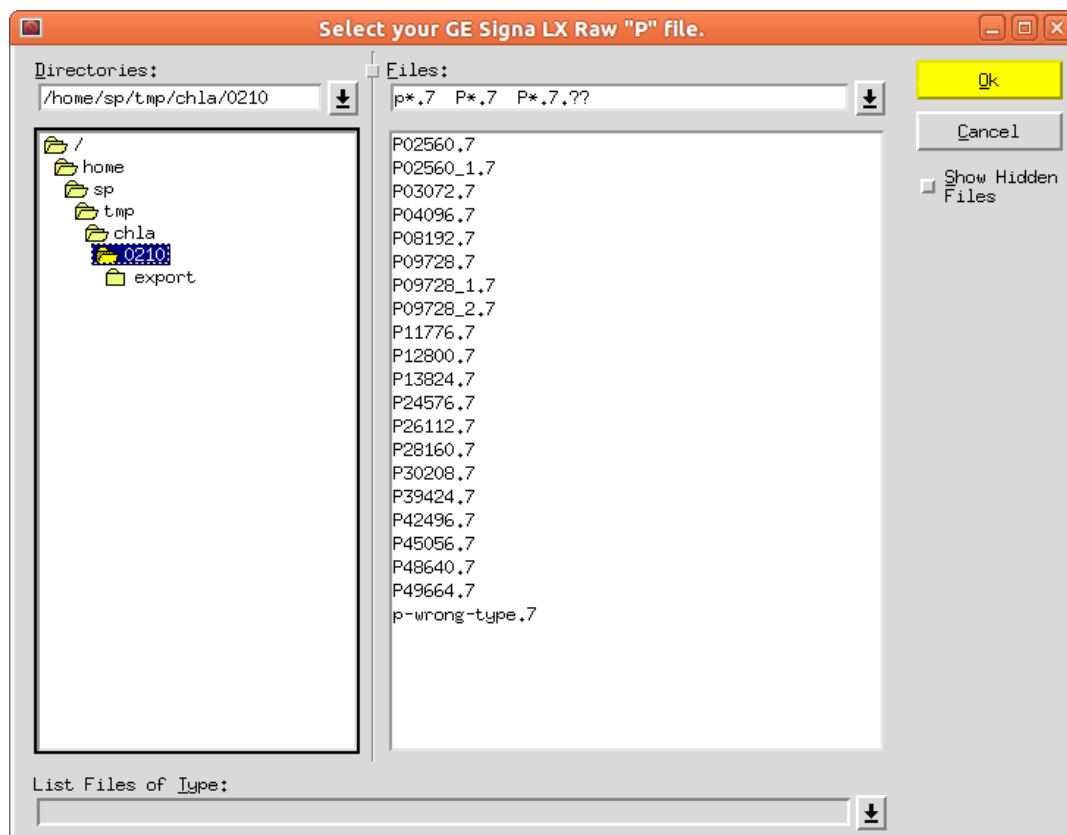
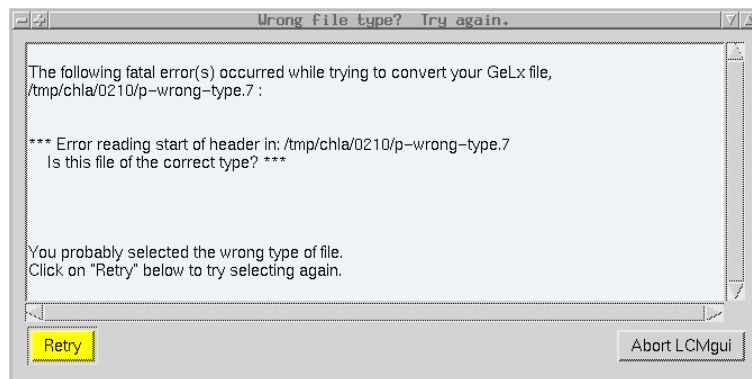
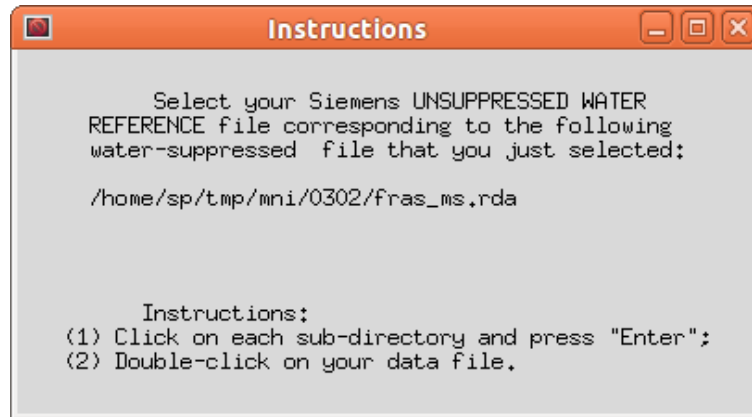

Figure 6.1: The File Selector, shown here for GE LX files
Figure 6.2: You selected a file of the wrong type in the File Selector
Figure 6.5: The instructions-part of the File Selector for the unsuppressed water reference.
- Select the file containing the data to be analyzed (Fig 6.1 in Sec 6.2.1).
When LCMgui is started, the first window that appears is usually the *File Selector*. An example with GE Signa LX data is shown in Fig 6.1. With data from other manufacturers, the title, “Select your GE Signa LX ...” will be different. LCMgui remembers the directory where the data file was in the last run, and the File Selector starts there.
You first navigate through the directory tree. When you click on a directory, its files are listed in the right pane (the stage shown in Fig 6.1). You then click on the filename that you want to use and click the yellow “OK” button at the right (or simply double-click on the filename).
Only filenames that match the filter shown at the top of the pane of filenames (p*.7, P*.7 or P*.7.??) in Fig 6.1) are displayed. If your filename differs from this standard (e.g., if you analyzed GE Signa 5.x data last time and LX data this time), then it will not be listed. You can change
If the filenames or directories in Fig 6.1 are so long that they are cut off, then the width of the panes can be adjusted by holding the left mouse button down on the small square at the top on the pane boundary (between “**Directories:**” and “**Files:**”) and dragging the pane boundary. (You can also simply use the scroll bar that appears at the bottom of the pane when names are too long.)
LCMgui remembers what type of data was analyzed from this account and User Profile the last time, and it expects the same type this time. You therefore get a window like Fig 6.2 if in the File Selector you:
- Select a completely irrelevant file (e.g., `p-wrong-type.7` in Fig 6.1 to produce Fig 6.2).
Otherwise, click the yellow “Retry” button in Fig 6.2. A window like Fig 6.3 appears. Here you click on the appropriate type of data. The File Selector then returns, giving you another chance to select your data file.
Select unsuppressed water reference file If the “Do eddy-current correction” button is active (blue), the File Selector window appears (unless you have Marconi/Picker files or GE Probe P-files, which already contain the water reference). It is exactly as in Fig 6.1, except for the window of instructions at the upper left (Fig 6.5). As you can see from Fig 6.5, the filename of your currently selected water-suppressed data is shown, and you must select the corresponding unsuppressed data file.
- (1) **File Selector.** You select the file containing your (binary scanner) data to be analyzed with the window in Fig 6.1.
- (2) **Data Conversion.** A program is executed to produce the LCModel **.RAW** file and any available Control Parameters (e.g., **NUNFIL**, **DELTAT**) from the file selected in Step (1). You can specify this program to be the standard LCMgui program for the standard Bruker, GE, Marconi/Picker, Philips, Siemens, Canon/Toshiba or Varian files (Sec 3.7). However, there is also an “Other” button to use a script supplied by you for another type of file.
- (3) **Preprocessor.** Even if you specify one of the standard programs for Step (2), you can still supply your own script in this step to modify the **.RAW** file or Control Parameters from Step (2). (The original default, when LCMgui is installed, is to use no Preprocessor.)